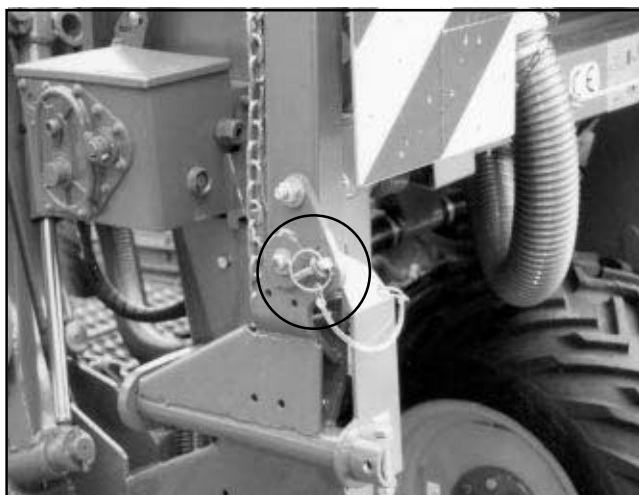

Fig. 7.2
- Return the track indicators to the transport position and secure as shown in Fig 7.2.